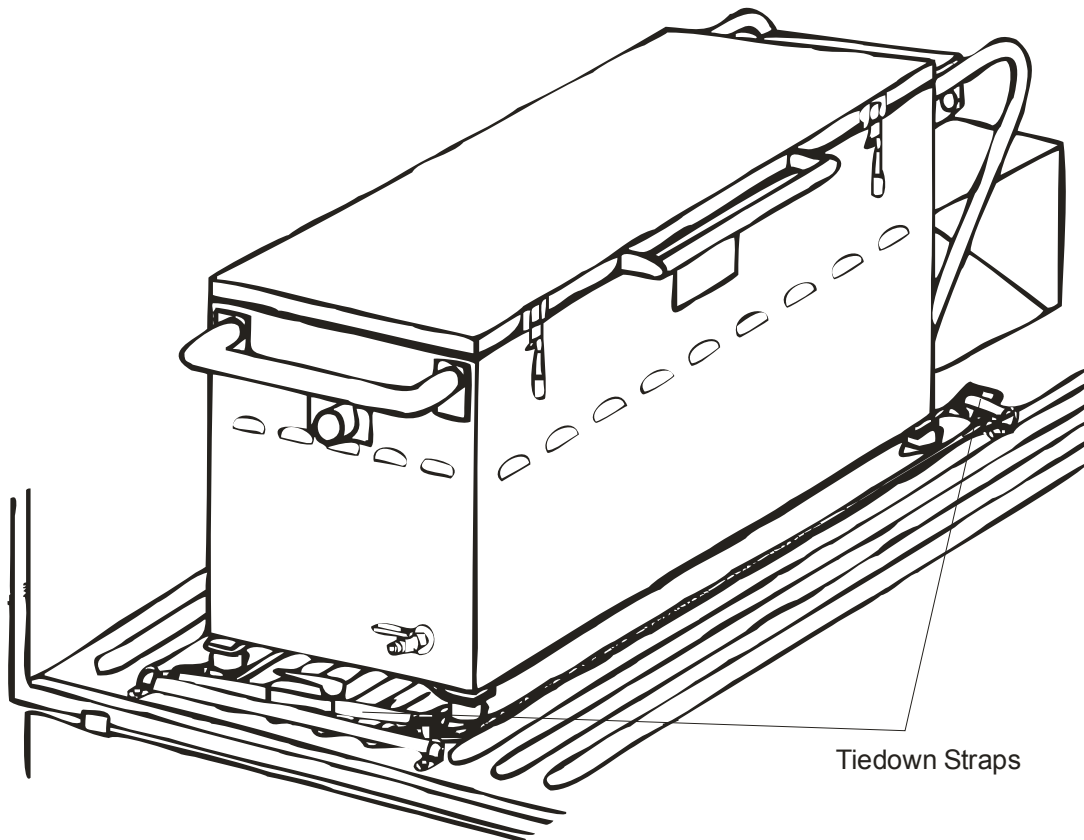

Figure 2-1. Cargo Bed Rings/Tiedown Strap Positioning
e. TRH Stabilizing Devices. Figure 2-1 illustrates TRH stabilization devices (tiedown straps).
Line up the TRH skid rings with the D-rings on the left side of the HMMWV cargo bed as illustrated in figure 2-1.